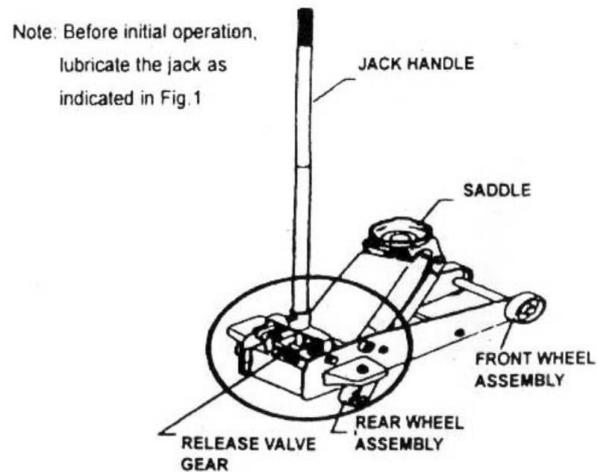

FIG.1
- Refer to the vehicle manufacturer owners manual to locate approved lifting points on the vehicle. Position jack so that the saddle(see Fig.1) is centered under the load at an appropriate lift point.